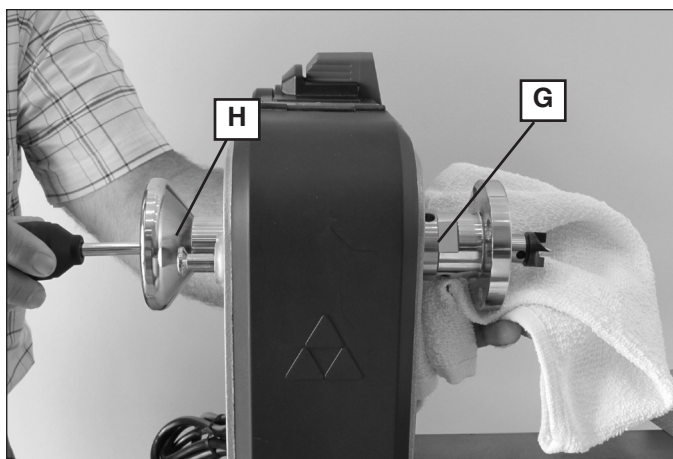

Fig. 7
Insert knockout bar (H) Fig. 7 into spindle bore (as shown in Fig. 7) and tap spur center (G) firmly to remove. If necessary, tap knockout bar firmly with soft mallet.